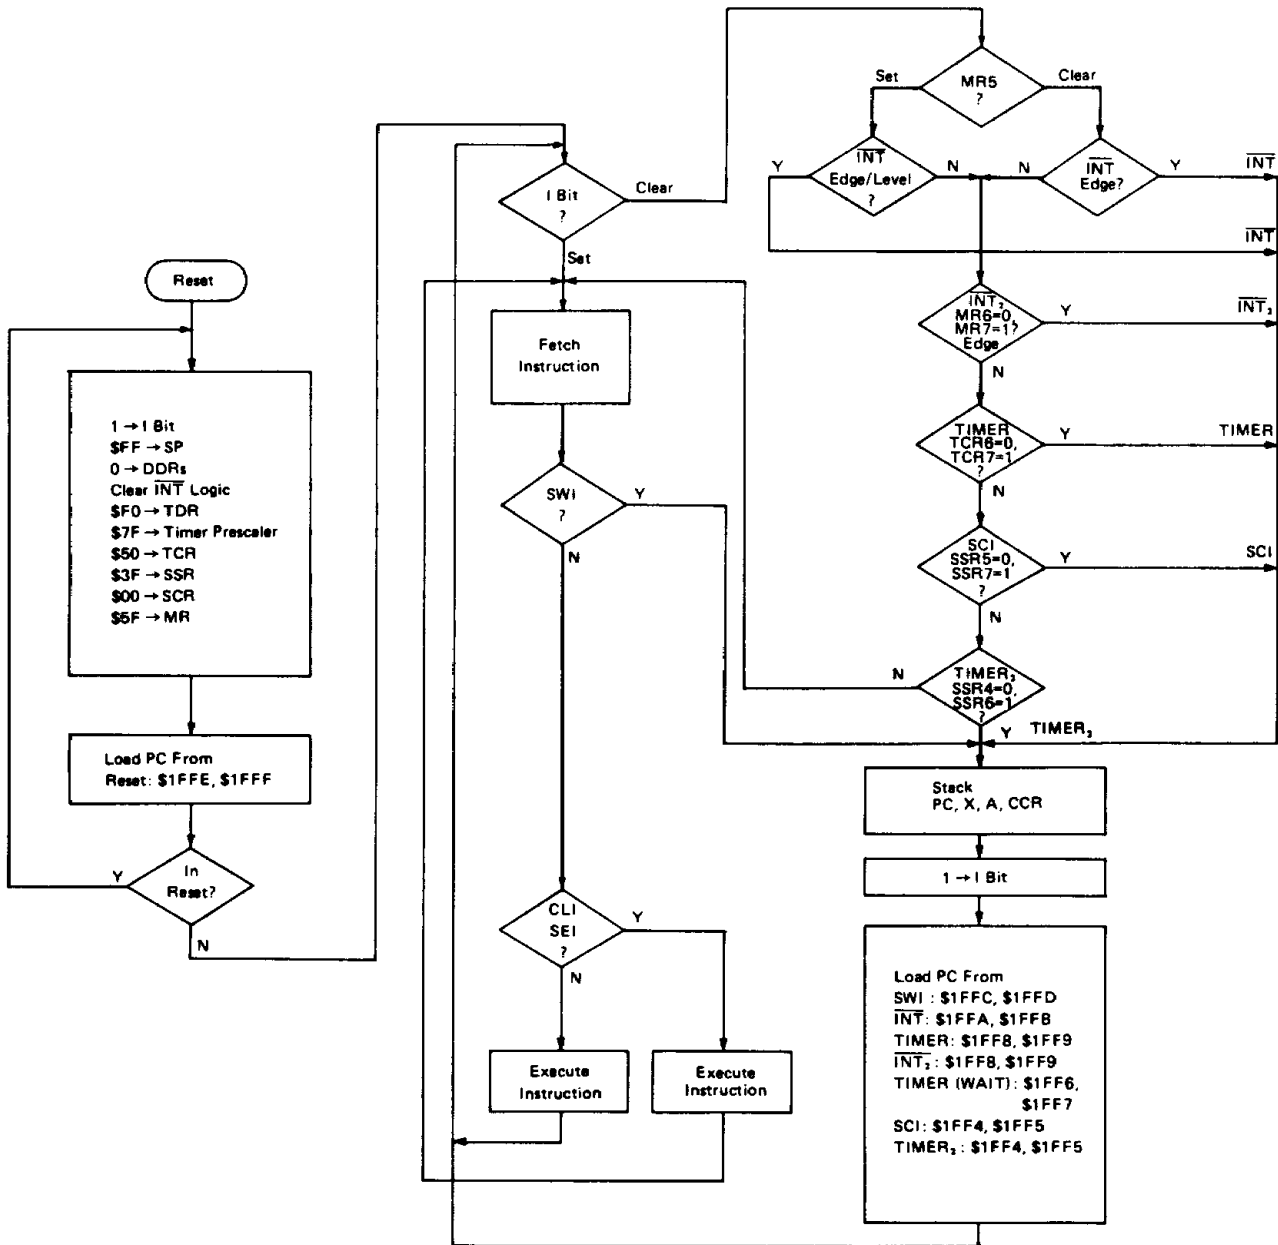
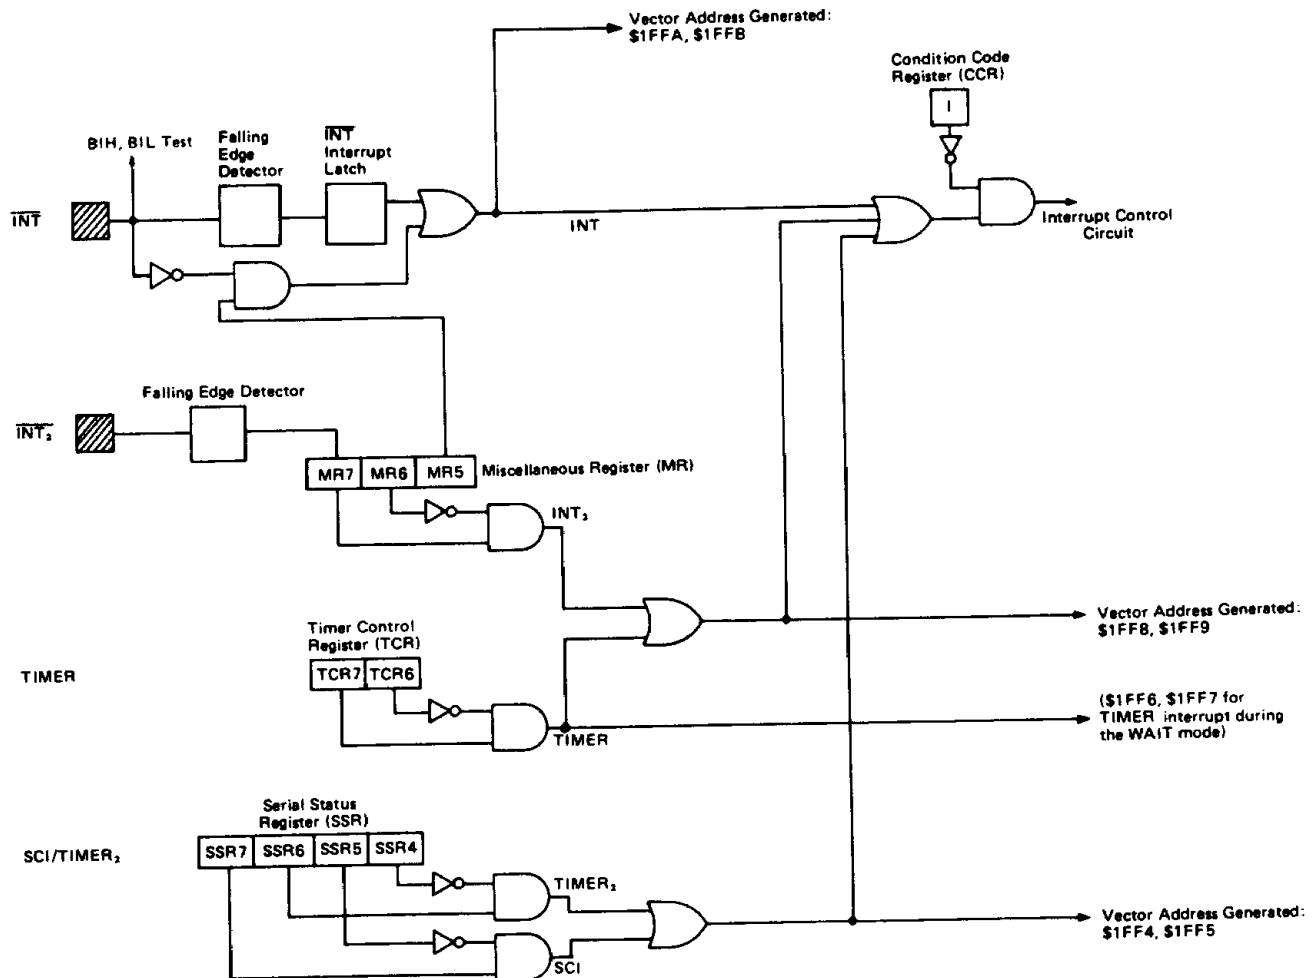

Figure 7 Interrupt Flowchart
Figure 8 Interrupt Request Generation Circuitry
A flowchart of the interrupt sequence is shown in Fig. 7. A block diagram of the interrupt request source is shown in Fig. 8.
In the block diagram of Fig. 8, the external interrupt $\overline{\text{INT}}$ is a falling edge trigger input, whereas, the external interrupt INT_2 can be configured as a falling edge trigger input or a combination of falling edge and low level trigger input, depending on the status of bit 5 in the miscellaneous register (MR). When an interrupt request is detected at the INT_2 or $\overline{\text{INT}}$ inputs, an interrupt re-